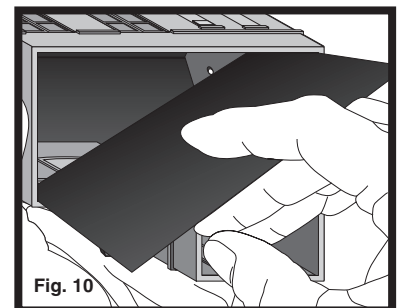

Fig. 10
3. Insert into structure (Fig. 10).